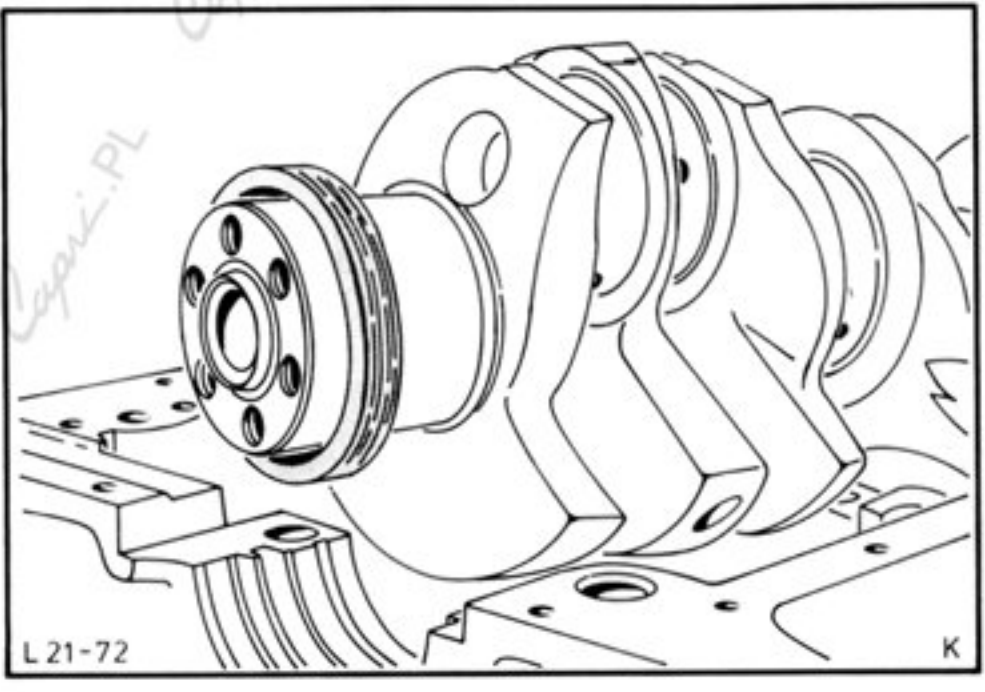

Fig.40. Lift crankshaft out of cylinder block.
31. Lift crankshaft out of cylinder block and remove oil seal, Fig.40.